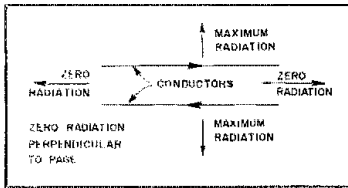
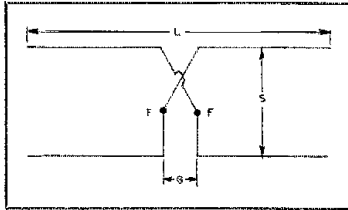

Fig. 1 — Basic W8JK antenna. The conductors carry equal out-of-phase currents.
Fig. 2 — Center-fed W8JK antenna. Two-wire feed line connects at FF.
suggested in Fig. 1. The elements may be center fed or end fed. The center-fed arrangement is shown in Fig. 2. Typically, the spacing (S) is about one-eighth wavelength on the lowest frequency used. The length (L) can range from less than one half wavelength to more than three half wavelengths.